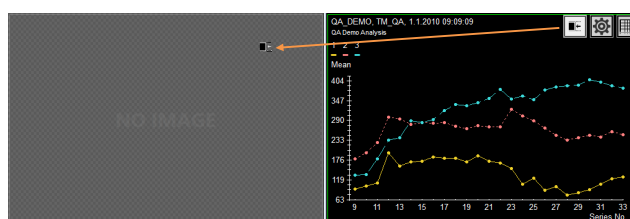

Figure 372 – Linking left segment with analysis chart
2. Drag the mouse cursor over a segment to be linked. The segment will be highlighted (see Figure 372).